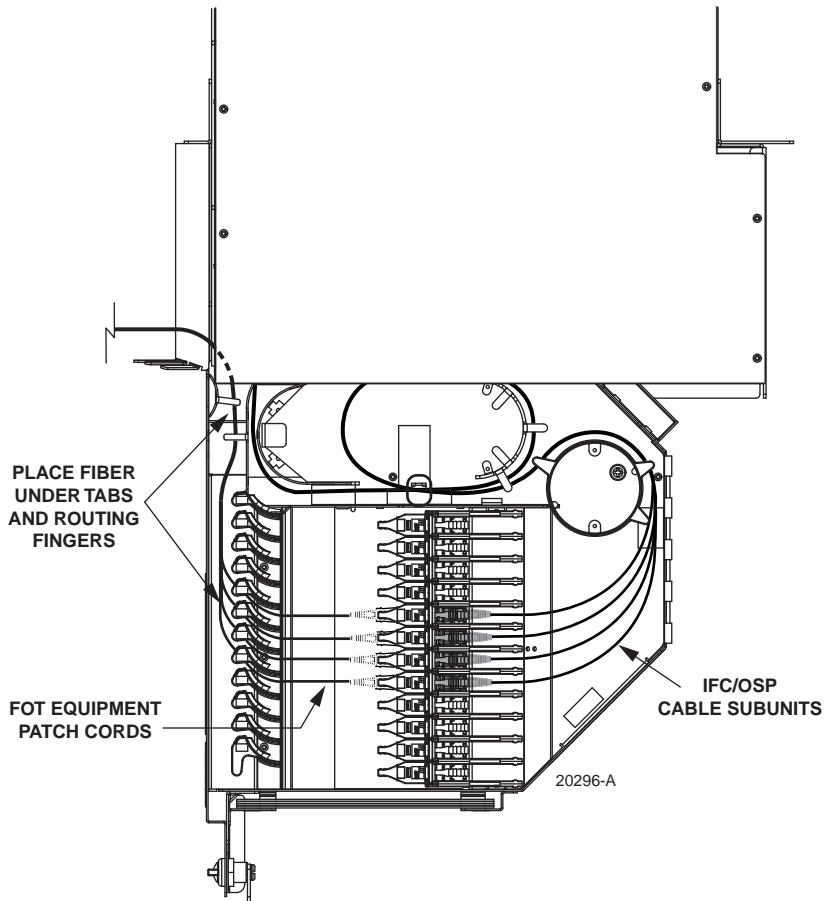

Figure 51. Routing FOT Patch Cords Within Standard Termination Panel- Interconnect Applications
5. Route the patch cord within the panel as shown in Figure 51.